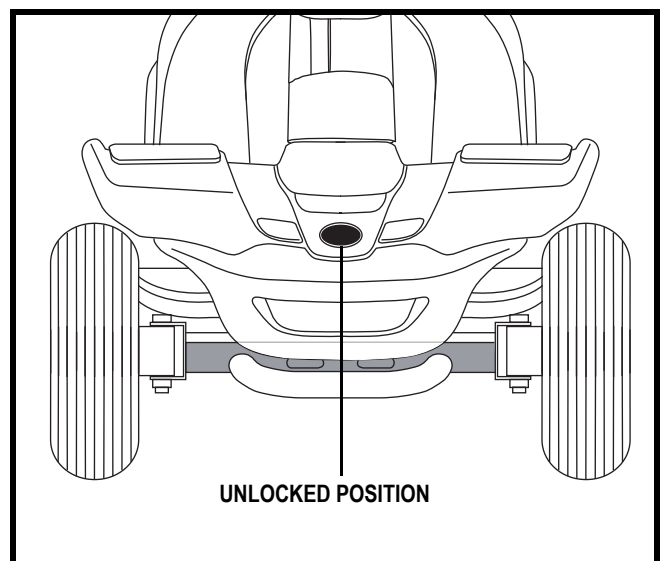

Figure 21A. Tiller Lock Knob (Unlocked)
9. Unlock the front wheel by turning the tiller lock knob 90° counterclockwise. See figure 21A.